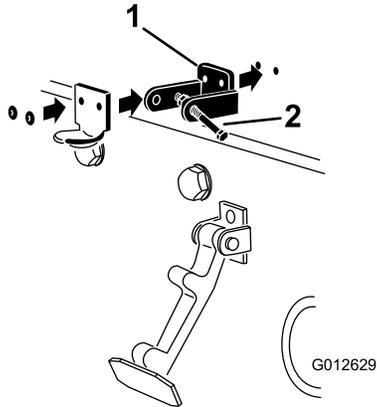

**Figure 32**
- Remove the rivets (2) securing the hood-latch bracket to the hood (Figure 32). Remove the hood-latch bracket from the hood.